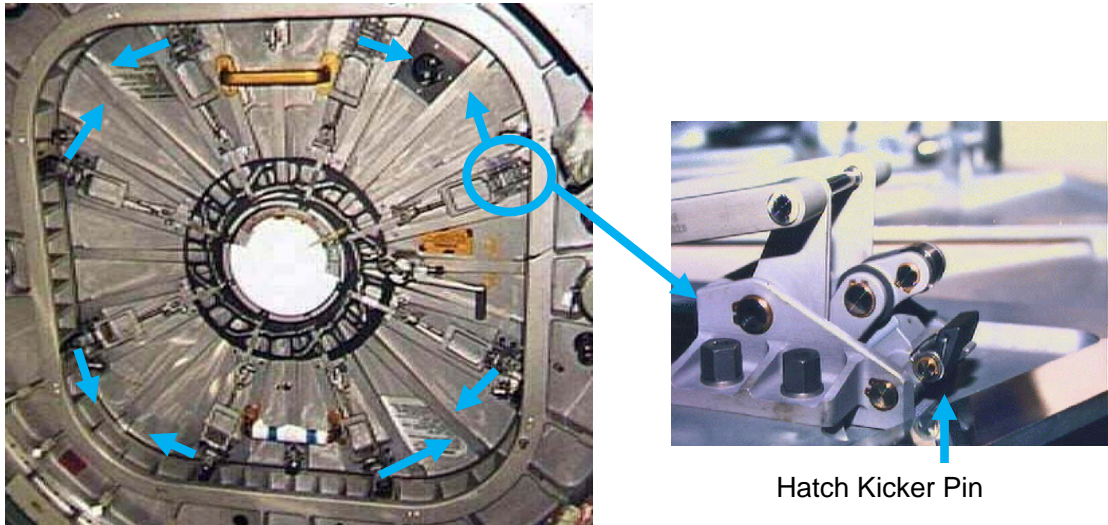

Figure 1.- Hatch Kicker Pin Location.
- 1.4 Check Hatch kicker pins (eight) slid toward the closest Hatch corner. Refer to Figure 1.